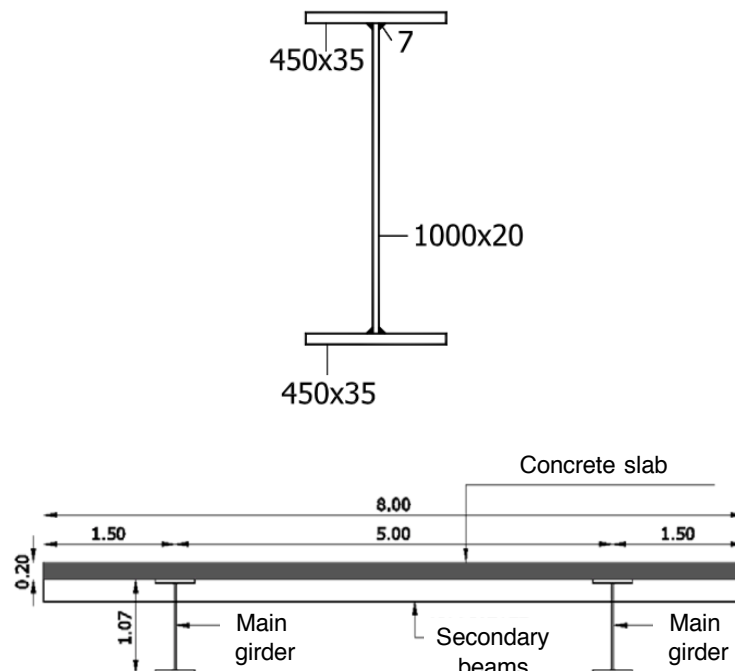

Figure 1. Section of pedestrian bridge deck (cross-section dimensions in mm; bridge dimensions in meters)
The simple supported pedestrian bridge shown in the figure below has a span of 24,00m. The deck is 8,00m long. The load resisting system consists of: (1) two main steel girders that are welded; (2) secondary beams; and (3) from a concrete slab ($\gamma=25\text{kN/m}^3$) with thickness of 20cm as shown in Figure 1. The steel girders are made of S235 steel (nominal $f_y=235\text{MPa}$, $\gamma=78.5\text{kN/m}^3$). Assume that the slab does not provide continuous lateral support at the top of the girder.